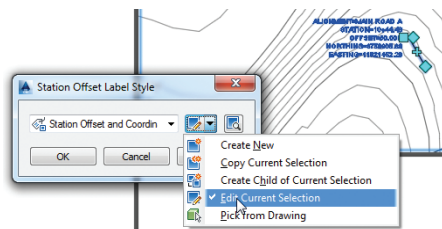

FIGURE 2.4 Clicking the Edit Current Selection command for the selected label style
6. In the Station Offset Label Style dialog box, click Edit Current Selection, as shown in Figure 2.4.